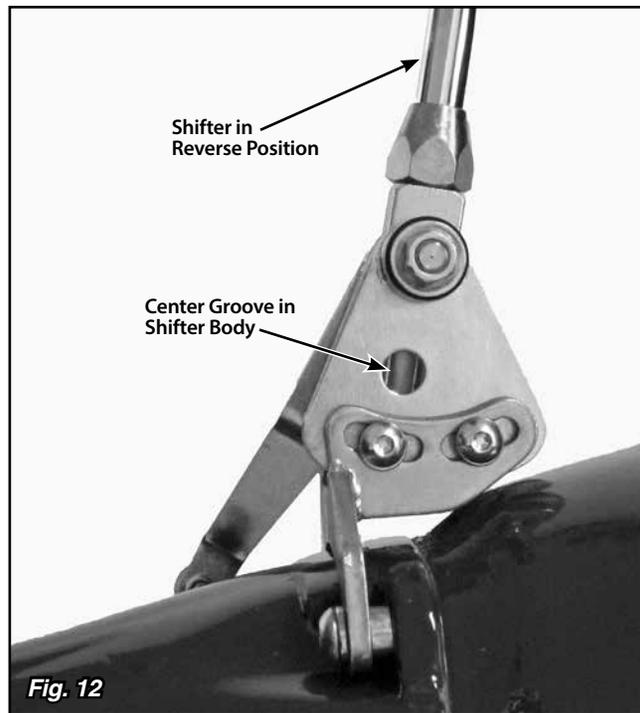
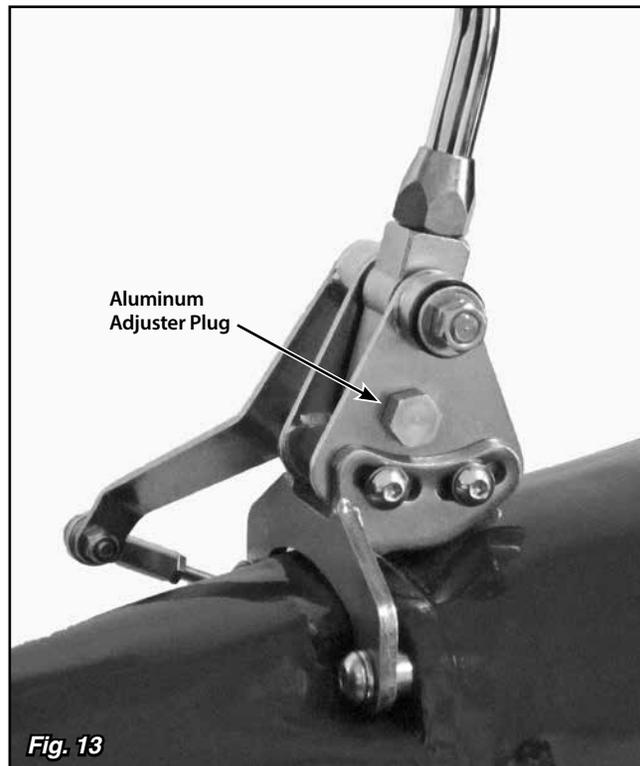

Fig. 12
Fig. 13
Step 17: Put the Shifter into the Reverse position. Reposition the switch plate so that the hole in the switch plate lines up with the center groove in the shifter body. **Fig. 12** Screw the provided aluminum adjuster plug into the neutral safety switch opening. Wiggling the switch plate slightly forward and back while you are screwing the aluminum adjuster plug in will help get the shifter body centered on the adjuster plug. **Fig. 13**
- If there are (2) connections for a neutral safety switch, run a #12 (or heavier) stranded wire from these terminals in your fuse panel to the (2) terminals on the neutral safety switch. That completes the Neutral Safety Switch wiring.
- Step 2:** Loosen the jam nut below the shifter knob. **DO NOT** loosen or remove the set screw that is in the knob. **Fig. 12**